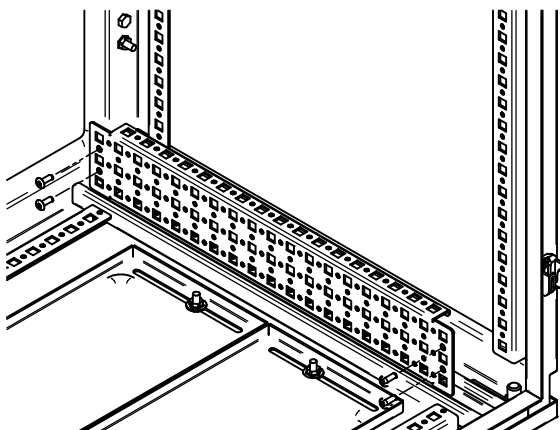

FIG 2.
B) Install the grid strap at the very bottom and the very top of the frames grid system (FIG 2.). Secure with four #12 thread rolling screws.